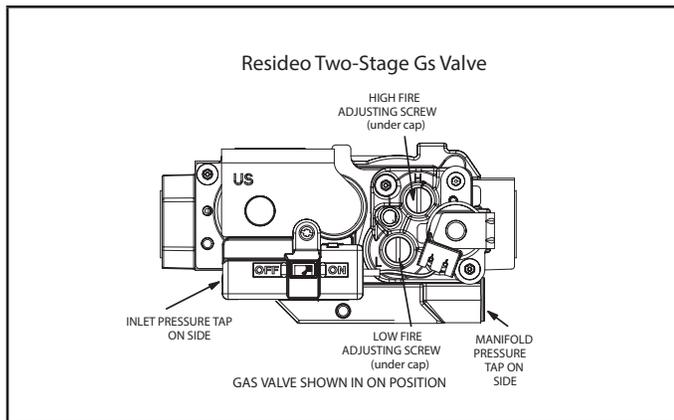

FIGURE 35
Gas Valve Operation ("FIGURE 35" and "FIGURE 35")
- 6 - Move switch on gas valve to OFF. Do not force. See "FIGURE 35" and "FIGURE 35".
- 8 - Move switch on gas valve to ON. Do not force. See "FIGURE 35" and "FIGURE 35".
An inlet post located on the gas valve provides access to the supply pressure. See "FIGURE 35". Back out the 3/32" hex screw one turn, connect a piece of 5/16" tubing and connect to a manometer to measure supply pressure. See "TABLE 13" for supply line pressure.
A manifold pressure tap located on the gas valve provides access to the manifold pressure. See "FIGURE 35". Back out the 3/32" hex screw one turn, connect a piece of 5/16" tubing and connect to a manometer to measure manifold pressure.